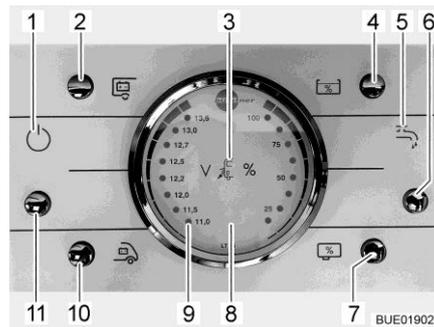

Fig. 98 Panel LT 96
The button (Fig. 98,11) switches the panel and the 12 V power supply to the living area on and off.
- Switching on:** ■ Press the button (Fig. 98,11): The 12 V living area power supply is switched on. The indicator lamp (Fig. 98,1) lights up.
- Switching off:** ■ Press the button (Fig. 98,11): The 12 V living area power supply is switched off. The indicator lamp (Fig. 98,1) goes out.
With the V/tank gauge (Fig. 98,8), note the left scale. The gauge automatically lights up as soon as a button is pressed.
- Press the button (Fig. 98,10): The battery voltage of the starter battery is displayed.
- Press the button (Fig. 98,2): The battery voltage of the living area battery is displayed.
With the V/tank gauge (Fig. 98,8), note the right scale. The gauge automatically lights up as soon as a button is pressed.
- Press the button (Fig. 98,4): The volume of water is displayed.
- Press the button (Fig. 98,7): The volume of waste water is displayed.
- Press the button (Fig. 98,6): The water supply is ON. The water pump indicator lamp (Fig. 98,5) lights up.
- Press the button (Fig. 98,6): The water supply is OFF. The water pump indicator lamp (Fig. 98,5) goes out.
The red "ALARM" warning light (Fig. 98,9) flashes as soon as the voltage of the living area battery falls below 11 V (measured under operation) and there is a risk of a total discharge.
The 12 V indicator lamp (Fig. 98,1) lights up when the 12 V main button (Fig. 98,11) is switched on.
The 230 V indicator lamp (Fig. 98,3) illuminates whenever line voltage is available at the transformer/rectifier input.